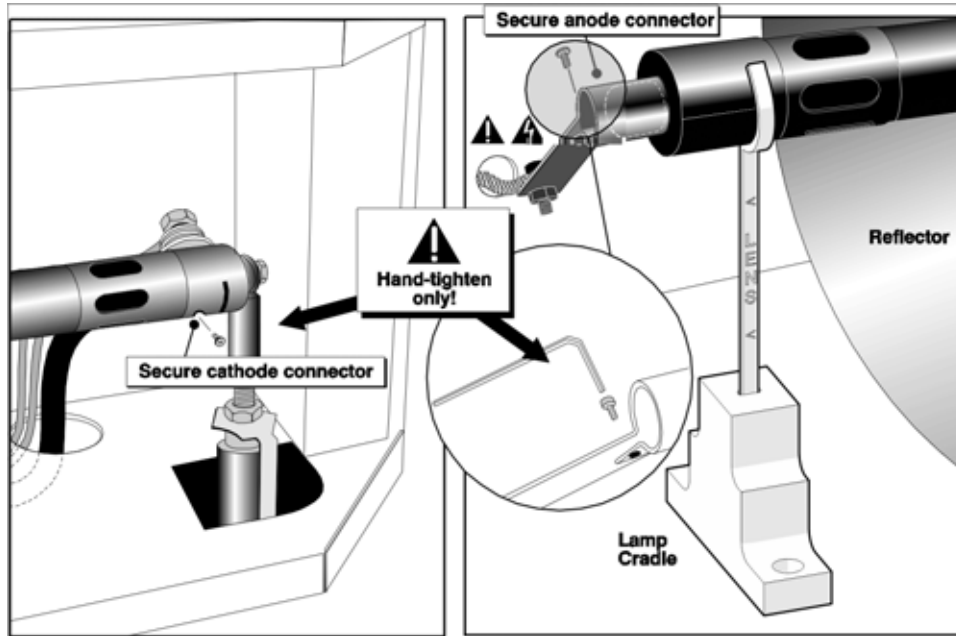

**Figure 8-1** Installing the Bulb
- b. Rest the anode (+) end of the lamp on the lamp cradle and slip the positive lamp connector over the bulb end. *Figure 8-1*